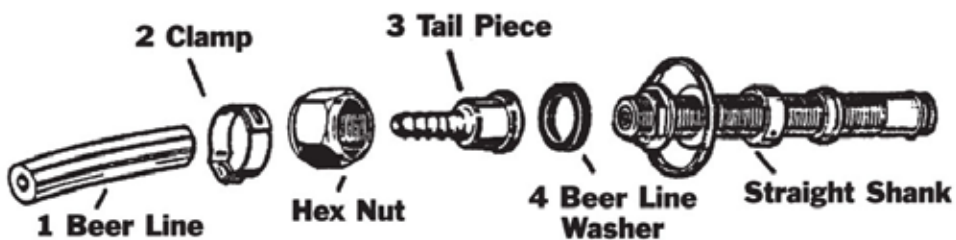

Fig 5.7
- Beer line to tube elbow (and tube shank) (**Fig 5.7, page 33**)